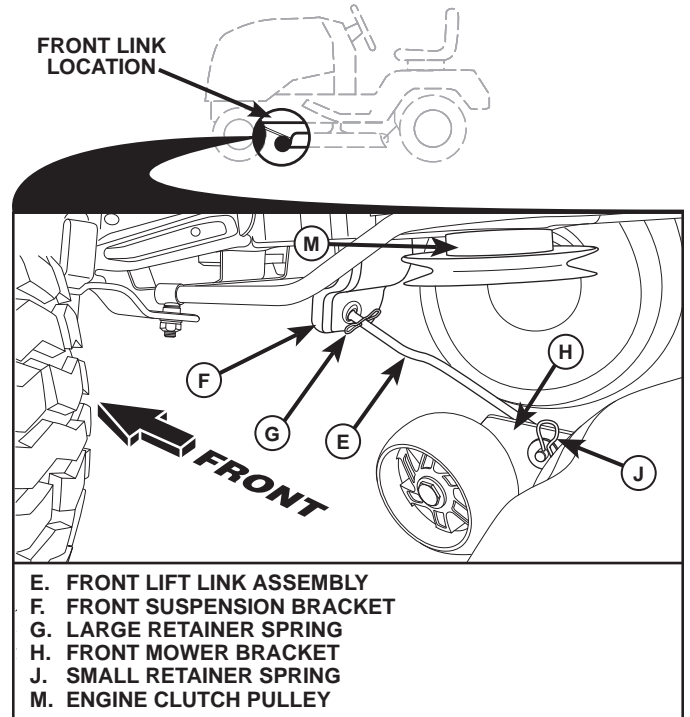

Fig. 30
8. ATTACH FRONT LINK (E) (See Fig. 30)
- From front of tractor, insert rod end of front link (E) through front hole in tractor front suspension bracket (F).
- Move to left side of mower and insert large retainer spring (G) through hole in front link (E) behind front suspension bracket (F).
- Insert other end of link (E) into hole in front mower bracket (H) and secure with washer and small retainer spring (J).